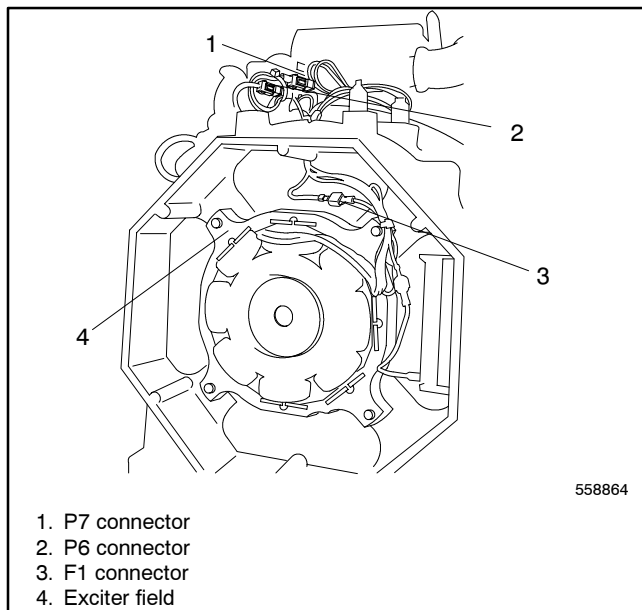

Figure 9-3 Exciter Field Removal
9. Disconnect the P7 (FP and FN) and P6 (F1 and F2) connectors. See Figure 9-3.
10. Remove the four bolts to remove the exciter field. See Figure 9-3.